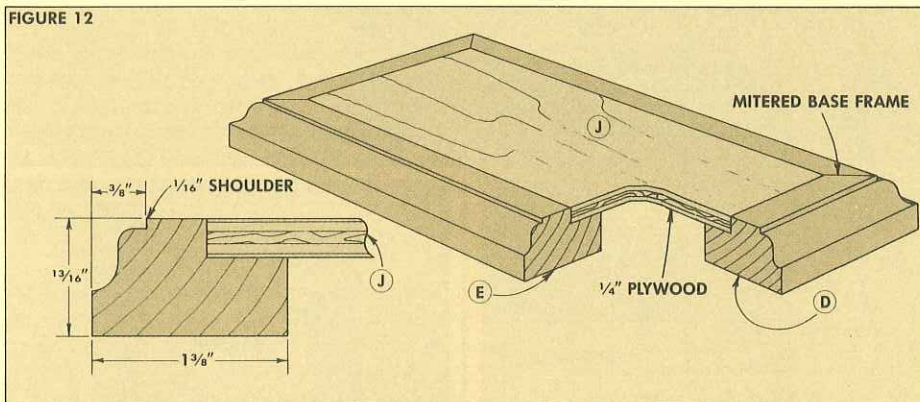

FIGURE 13
**CUT TO LENGTH.** Next, the four frame pieces (D and E) can be mitered to length. To determine the finished length of the front/back pieces (E), hold the corner moldings (cut earlier) against the body of the music box, and measure the length from molding to molding.
To get the length of the end pieces (D), measure the distance from the front molding to the back of the box. Now add  $\frac{7}{8}$ " to both of these measurements to provide for the two  $\frac{3}{8}$ "-wide lips, and the two  $\frac{1}{16}$ "-wide lips, see Fig. 13.
**ASSEMBLY.** Go ahead and miter the four frame pieces to length. Then dry-assemble them and cut  $\frac{1}{4}$ " plywood bottom (J) to fit the rabbet on the inside edge of the frame.
After the base frame is assembled, it's glued to the main body of the music box. Here, be sure that the box is centered so there's a  $\frac{1}{16}$ " spacing between the corner moldings and the edge of the ogee profile on the base, see Fig. 13.